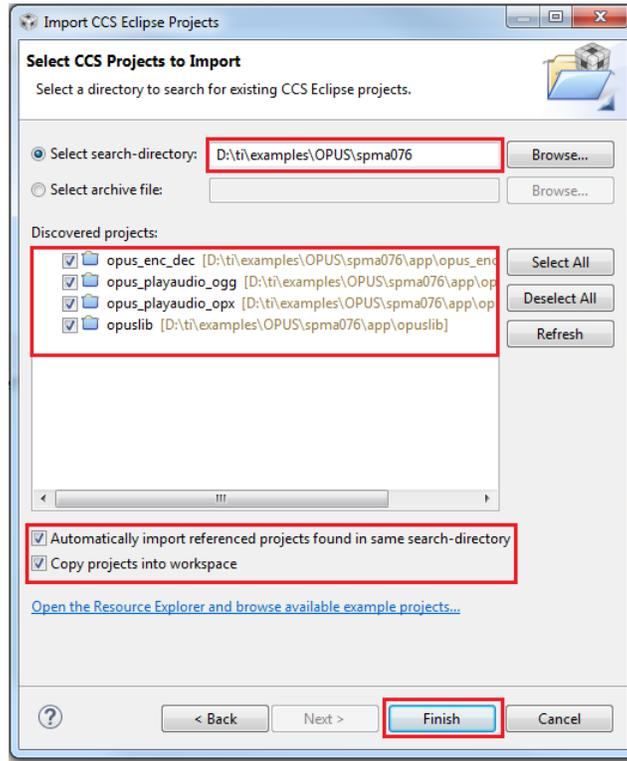

Figure 3-2. Import the Examples
- Click the *Browse* button in front of *Select search-directory* option and navigate to the directory where the project collateral has been extracted. Select all the projects that are listed in the *Discovered projects:* pane. Make sure that the check-boxes in front of *Automatically import referenced projects found in same search-directory* and *Copy projects into workspace* are checked (see Figure 3-2). Now click on *Finish* button. This will import the examples into CCS.